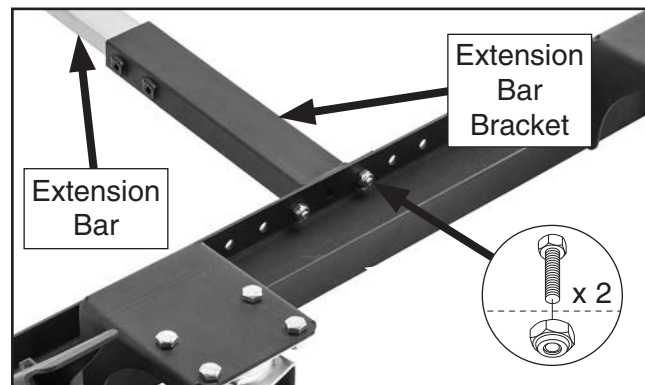

Figure 10. Extension bar bracket attached.
10. Slide extension bar bracket over extension bar, then attach bracket to center of leg support bracket with (2) M8-1.25 x 16 hex bolts and (2) M8-1.25 lock nuts (see **Figure 10**).